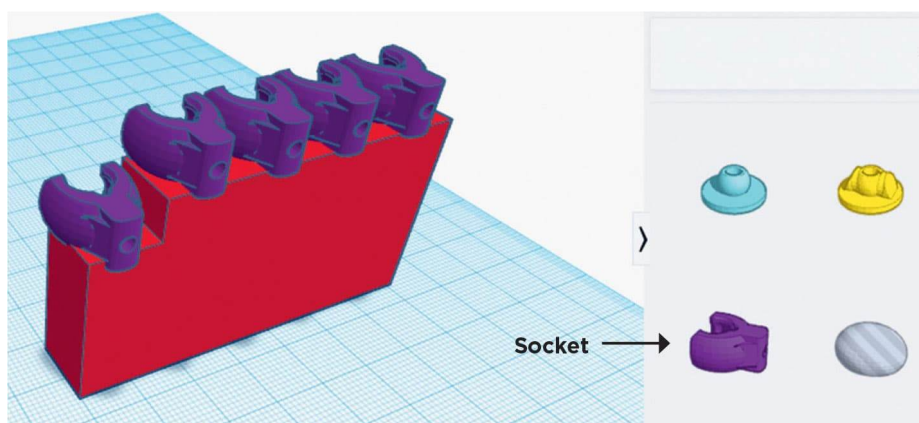

FIG. 2: Add sockets for the knuckles.
2. We will now use the **Socket** tool from the **Connector** toolbox to create the socket of the ball-and-socket joint of the knuckle (fig. 2 arrow identifies the socket tool). We will not resize the socket tool as it is matched to the ball tool for the rest of the joint.